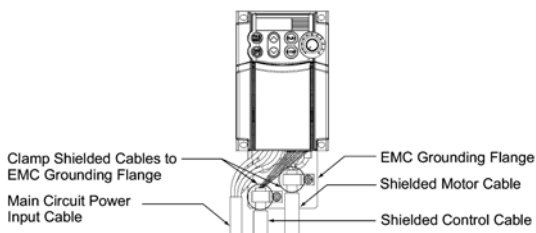

Figure 11.2 Connecting Shielded Cables
- (2) Use shielded wires for the motor cable and route it as short as possible. Firmly clamp the wire shield to the flange to ground it. Further, connect the wire shield electrically to the grounding terminal of motor. (See Figure 11.2.)
- (3) Use shielded wires for the control signals of the inverter to input to/output from the control terminals. Firmly clamp the control wire shields to the EMC grounding flange (in the same way as the motor cables).